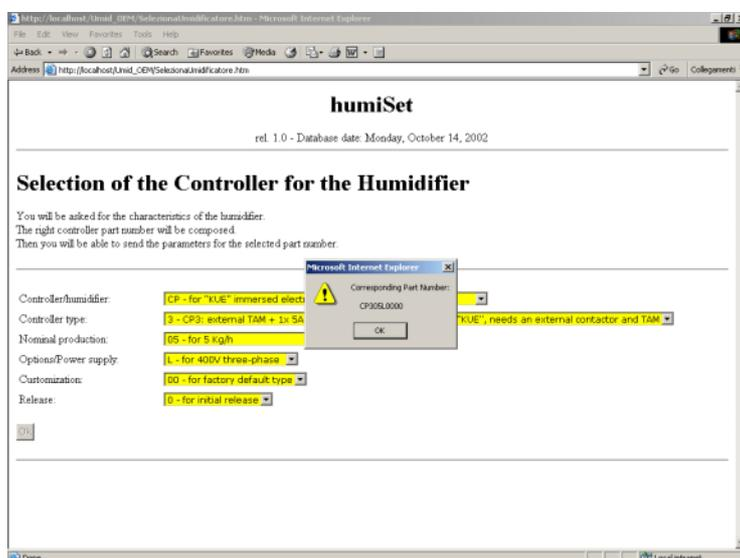

Figure 34
- After selecting the last field, a Pop Up Window will display the code of the set of parameters to apply during the programming. It is the same code that must be used to request the programmed spare controller. Press key OK in the Pop Window (Figure 34). Then, the key "Ok" in the bottom left-hand corner will turn active. Press "Ok" to continue. The system will check the consistency of the choices made with the controller firmware.